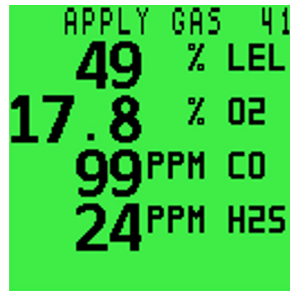

Figure 57: APPLY GAS Screen
5. Once gas is applied, press and hold the **R** button to start the calibration. The 60 second countdown will commence (refer to Figure 57: APPLY GAS Screen). After 60 seconds, the monitor will be calibrated to the predefined values.